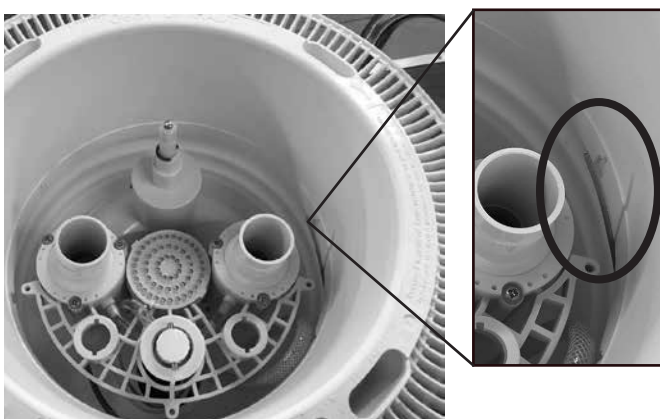

Figure 18
4. When installing the anti-entrapment suction cover (part# 93) in Final Assembly Section on page 17, leave a small length of bare wire accessible on the inside of the jet housing (See Figure 18).